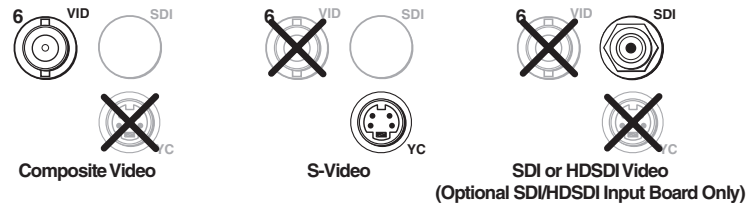

Figure 2-5 — Connections for input 6 video formats
- ④ **Input 6 video connectors** — Connect **either** S-video, composite video, or SDI/HD-SDI video to these connectors (figure 2-5).